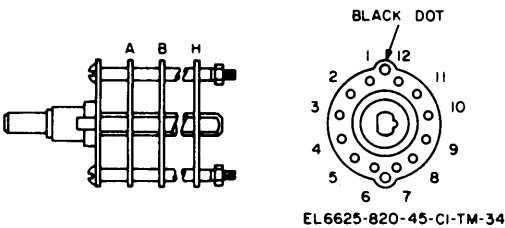

Figure 3-3. TS-2500A/ARM-92 switch S3 wafer and pin designation.
p. Disconnect the wire to the wiper connection of wafer H of switch S3 (fig. 3-3).